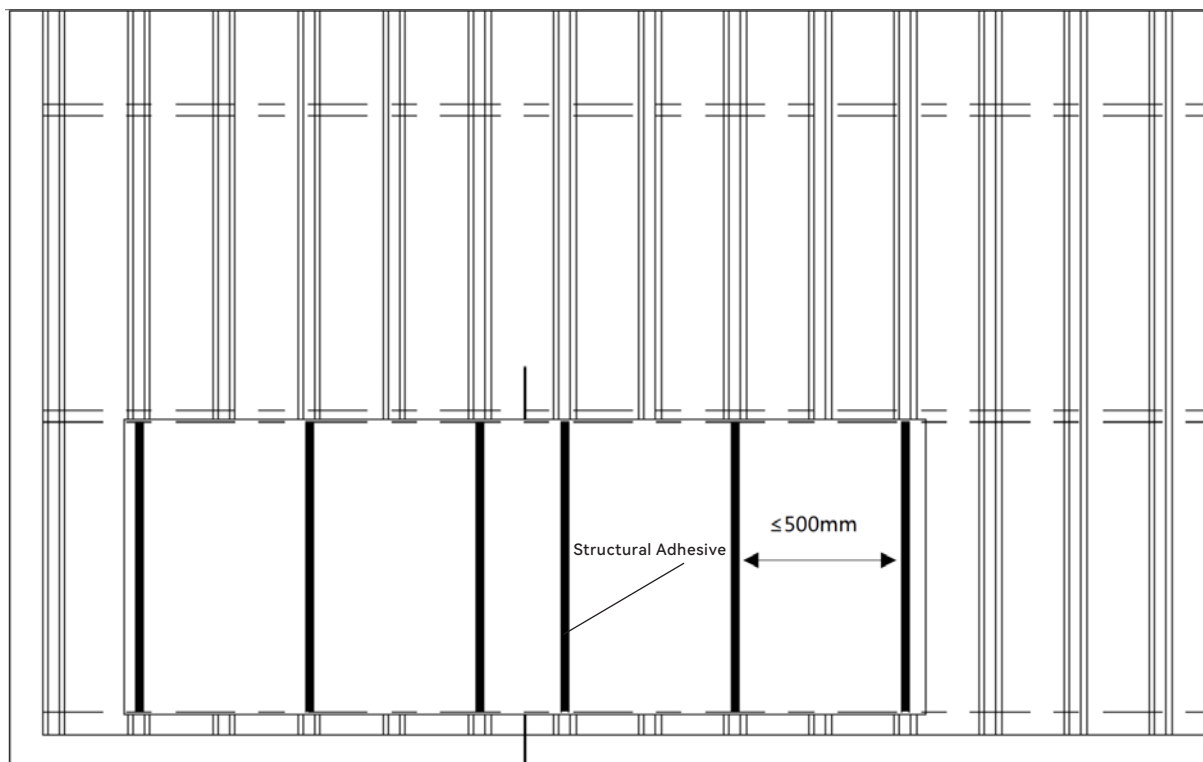

Figure 2
① Galaxy products are bonded to the color steel tile by structural adhesive, which needs to meet the requirements for adhesive strength and pass reliability testing. Each product should be equipped with no less than 6 strips of structural adhesive on the back (Figure 2) and the spacing between each strip of structural adhesive should be as evenly distributed as possible. The distance between two strips of structural adhesive should not be greater than 500mm.